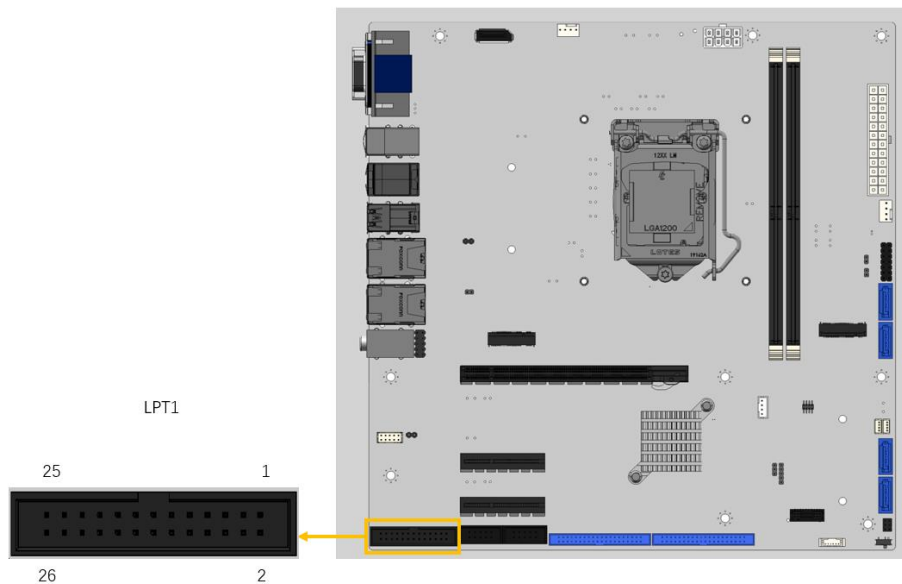

Figure 3-21: Parallel port connector Location
- CN Location:** See Figure 3-21